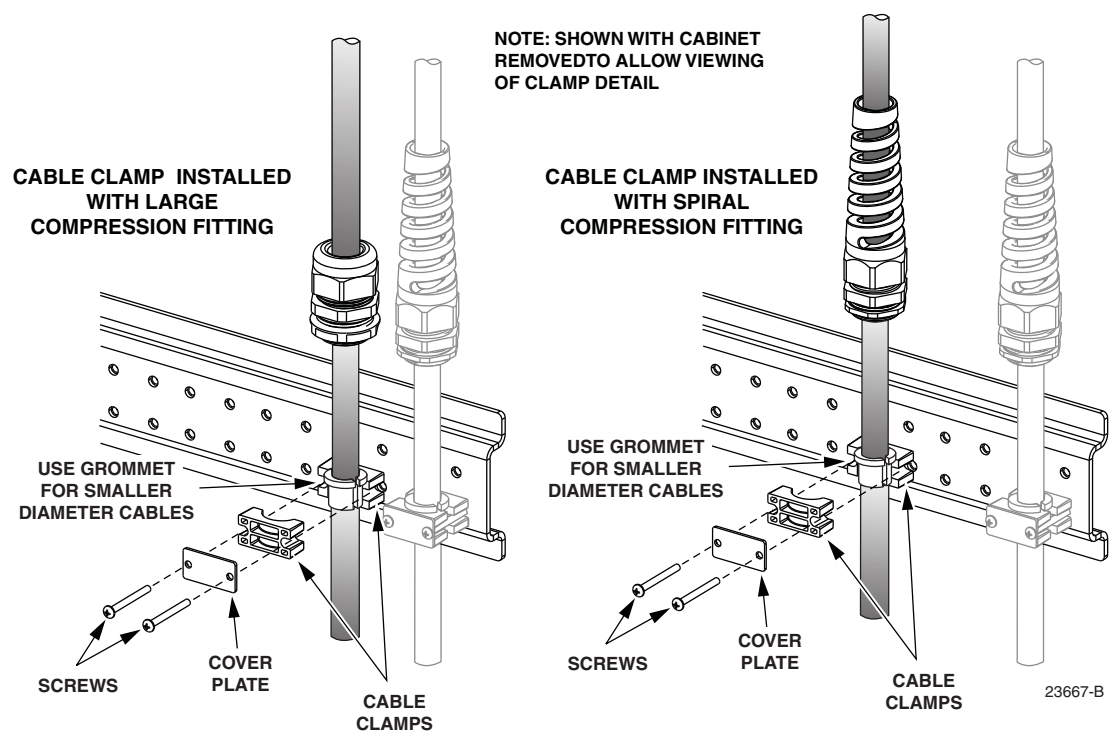

Figure 31. Assembling Distribution Cable Clamp
12. Assemble the cable clamp and grommet (if needed) on the distribution cable as shown in Figure 31.